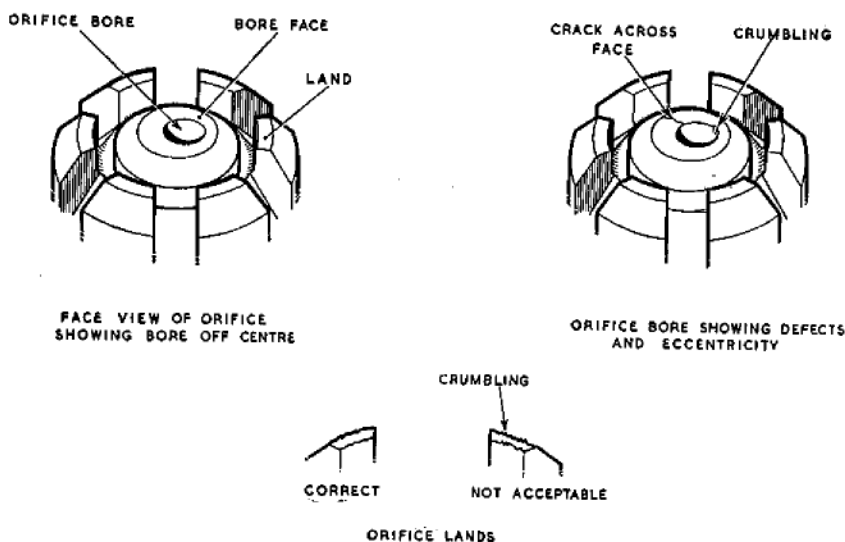
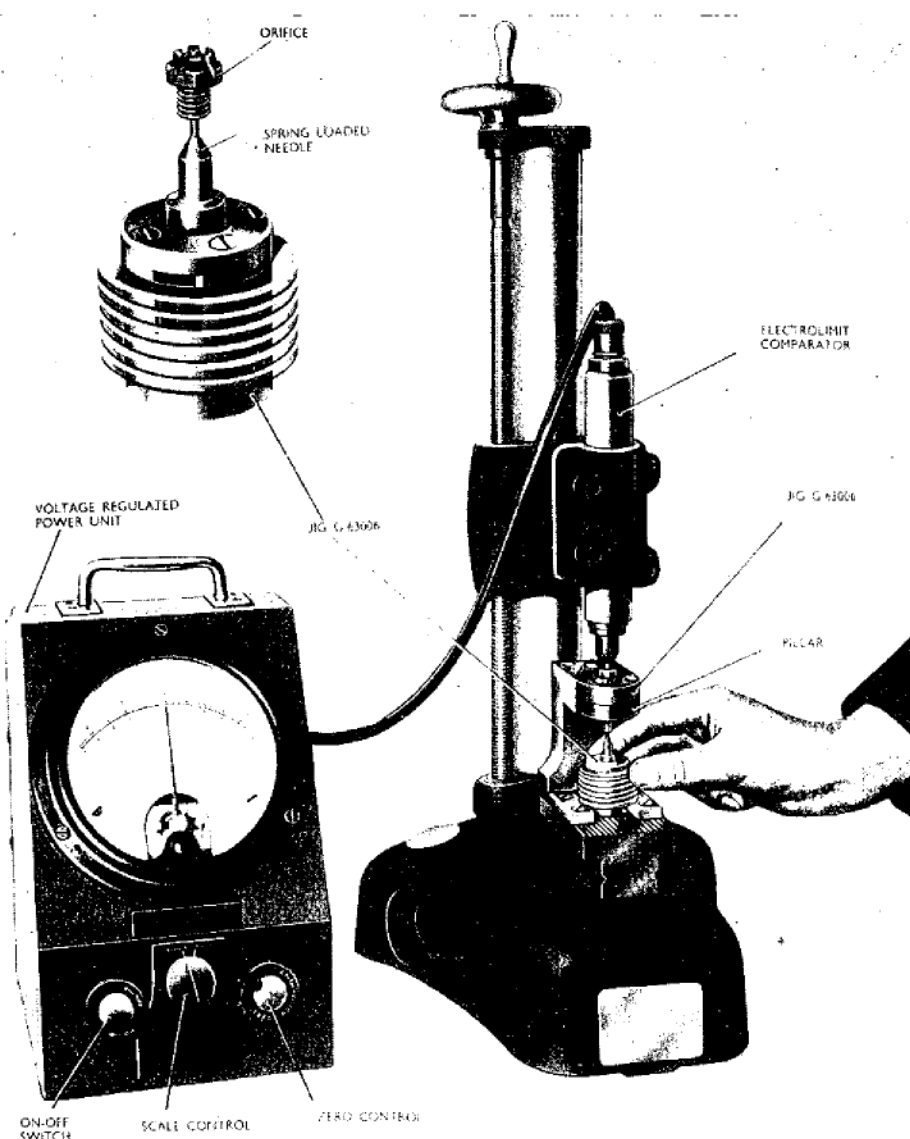

Fig. 4. Orifice defects (highly magnified)
Fig. 5. Checking the orifice with an electro-limit comparator
45. Inspect the orifice assembly for damage to the lands and for wear by the half-ball (fig. 4). Test the orifice face with an electrolimit comparator, if available (fig. 5) and an optical flat. Reject the orifice if more than two colour bands are apparent.